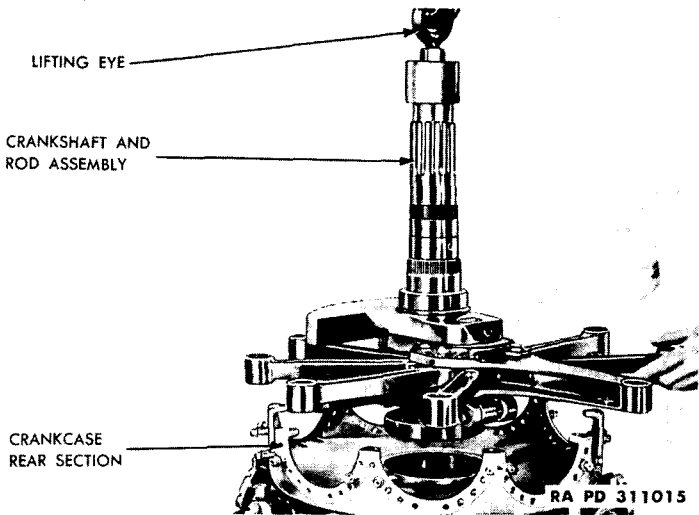

Figure 20 — Removing Crankshaft, Using Lifting Eye 5A2265
o. Remove Crankshaft (fig. 20). Install lifting eye (5A2265) over threads at end of crankshaft, and lift crankshaft and connecting rod assembly out of crankcase main rear section.